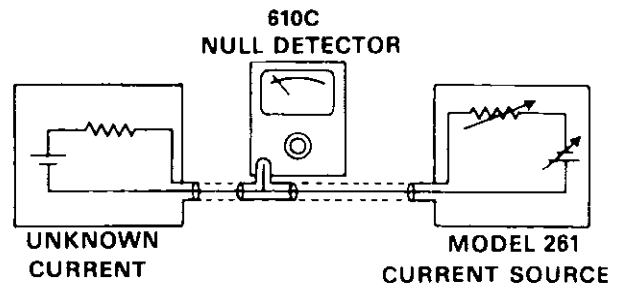

Figure 3-1. Current Suppression Circuit Connections
The basic circuit for current suppression is shown in Figure 3-1. Because of its popularity, the Keithley Model 610C is used as the current measuring device. Other instruments with similar characteristics will serve equally well in this application. Using the Models 261 and 610C, suppression up to 1000 times full scale is possible. Suppression up to at least 100 times full scale is possible with most picoammeters.
1. Connect the Models 261 and 610C to the unknown current as shown in Figure 3-1; use the Model 261 test cable or other similar coaxial cable.